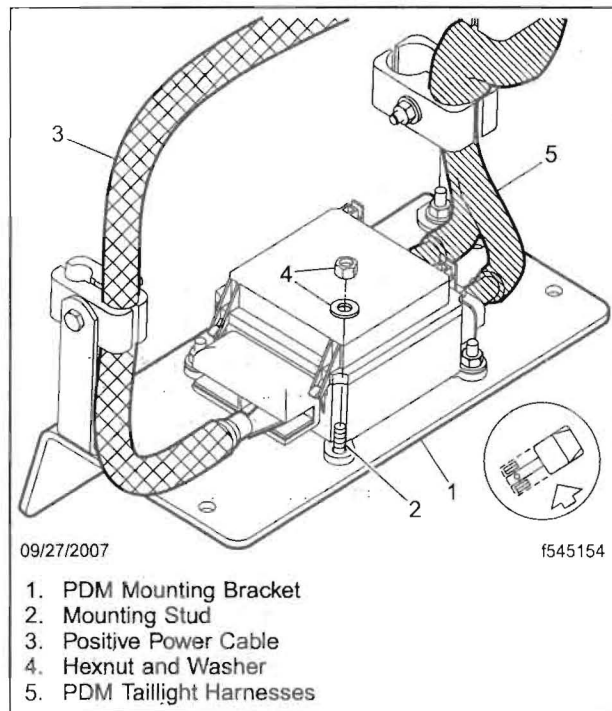

Fig. 2, PDM Mounting
7. Remove and discard the four nuts that hold the PDM to the mounting bracket, then remove the PDM. See Fig. 2.